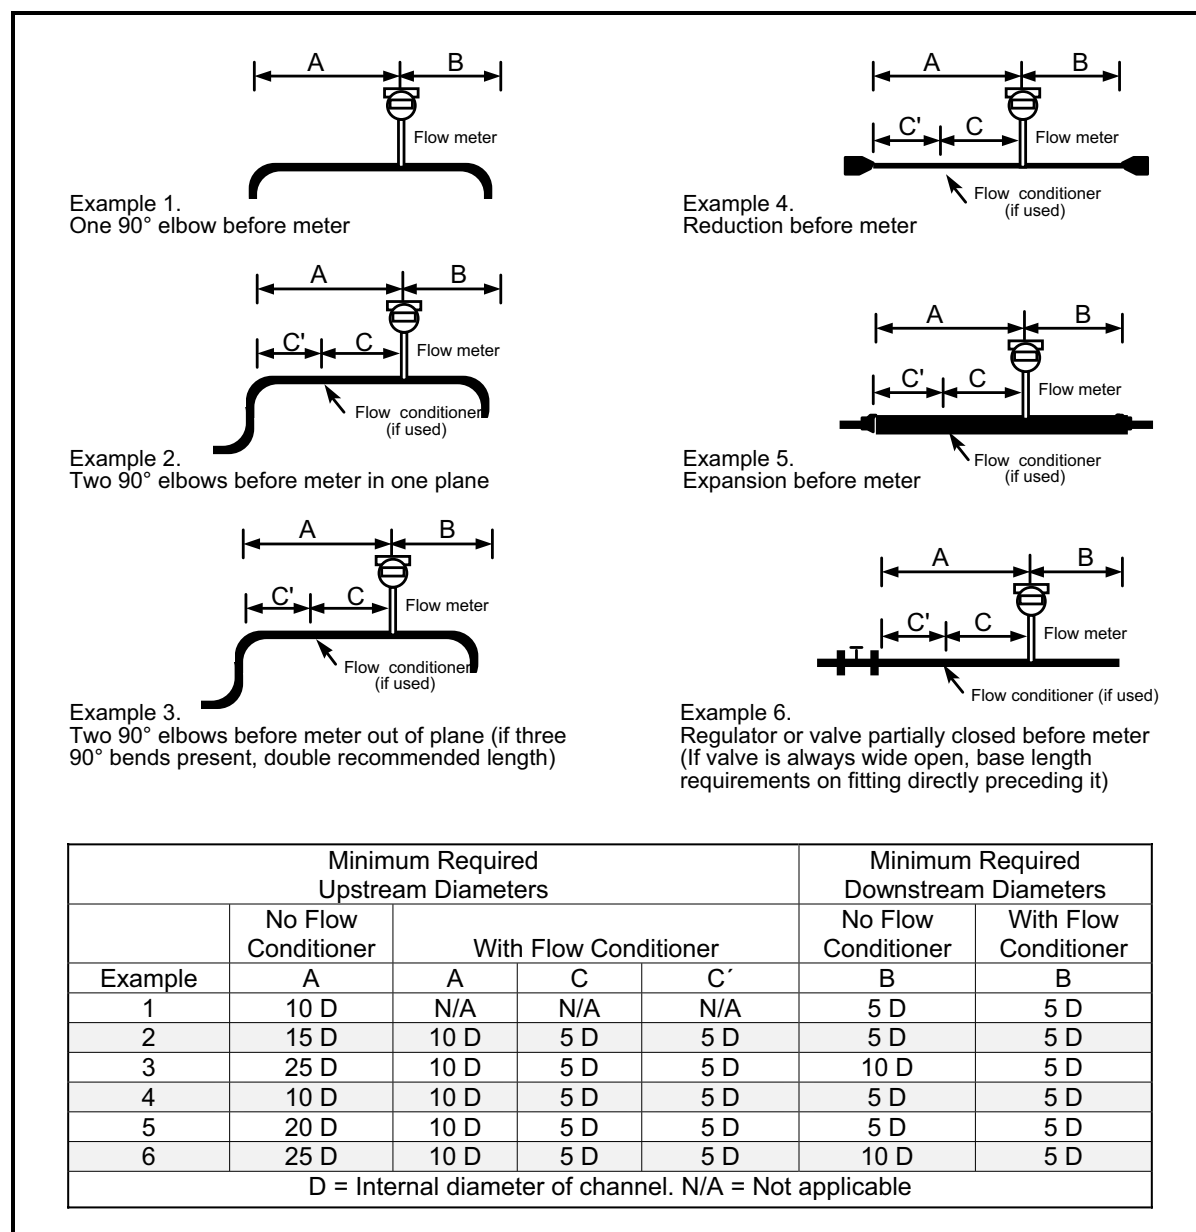

Figure 2-1: Recommended Pipe Length Requirements for Installation - Series MV80 & MV82
2. The location meets the required minimum number of pipe diameters upstream and downstream of the sensor head as illustrated in Figure 2-1 on page 2-2.
2. Confirm that the installation site meets the minimum upstream and downstream pipe diameter requirements (see Figure 2-1 on page 2-2).